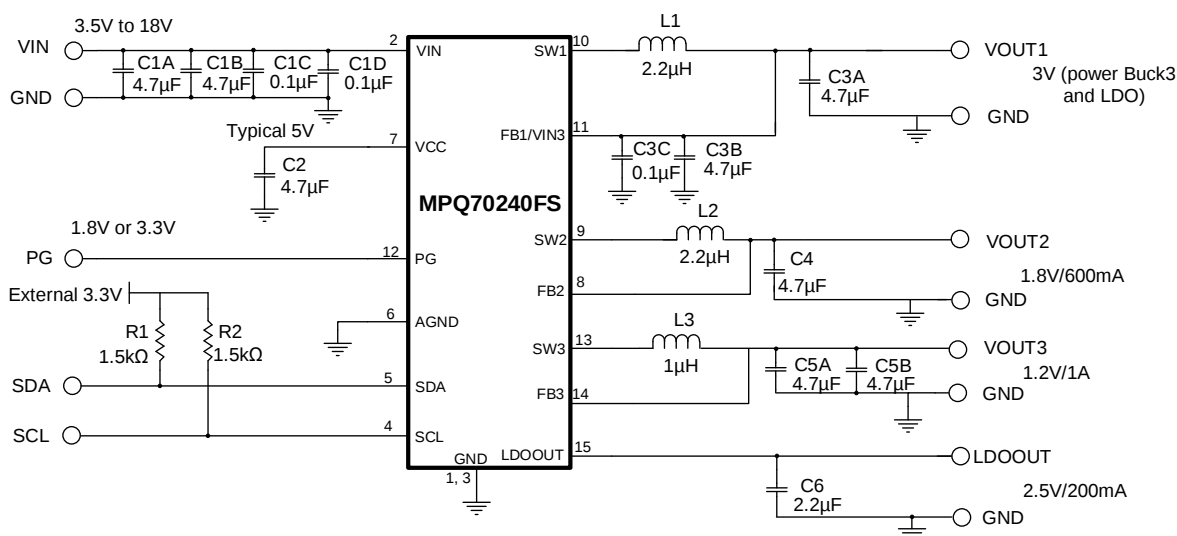

Figure 16: Typical Application Circuit ($V_{OUT1} = 3V$, $V_{OUT2} = 1.8V$, $V_{OUT3} = 1.2V$, $V_{LDOOUT} = 2.5V$)
15) The recommended PCB layout is based on Figure 16 on page 72.